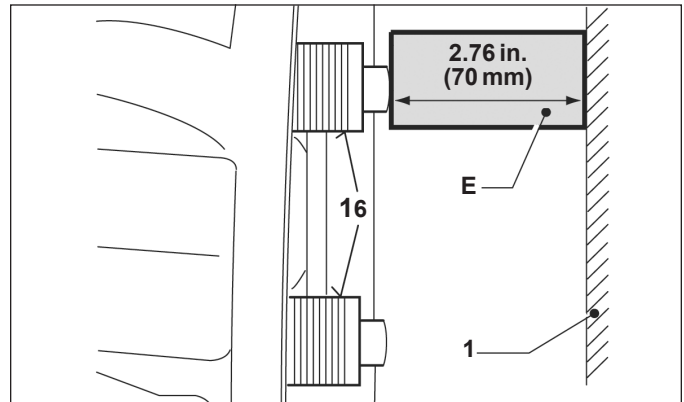

Figure 51 – Use of a Spacer (off-vehicle inspection)
If the work is being carried out at a workbench, the technician may insert a 2.76 in. (70 mm) spacer (See callout “E” in Figure 51) into the caliper (1) to help avoid the loss of thread engagement.
4.5.11 For threads that are in good condition, grease the threads with white grease (Part No. II14525 or K021964). Before installing the replacement inner seals (22), retract the threaded tubes by turning the shear adapter (61) counterclockwise.